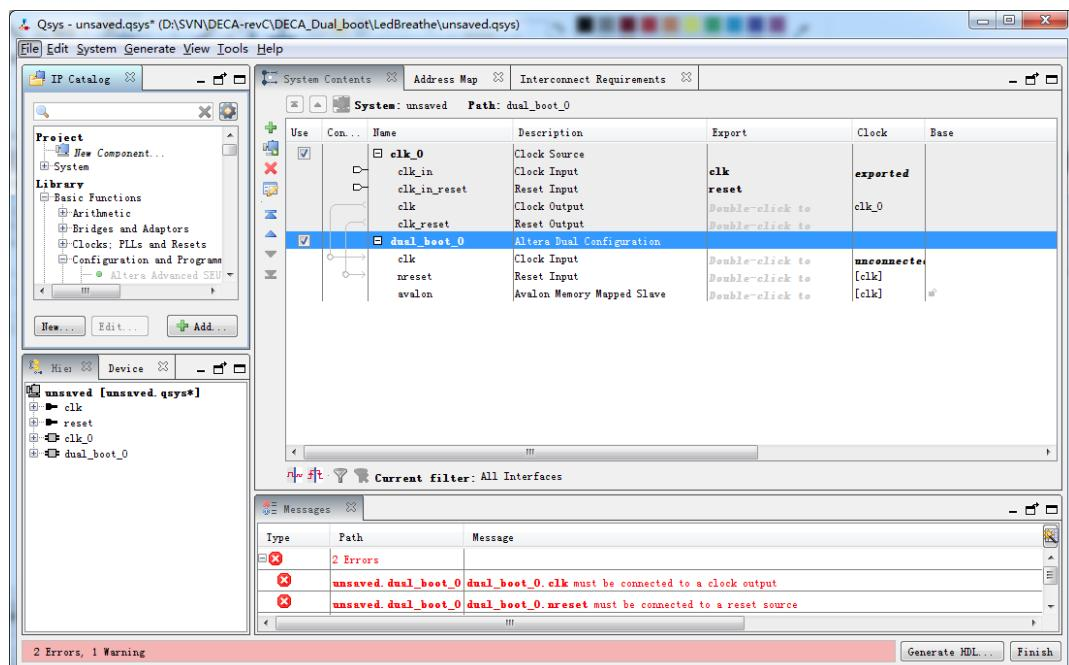

Figure 8-6 Add Dual Boot IP [2]
- Click **Finish** to close the wizard and return to the window as shown in **Figure 8-6**.